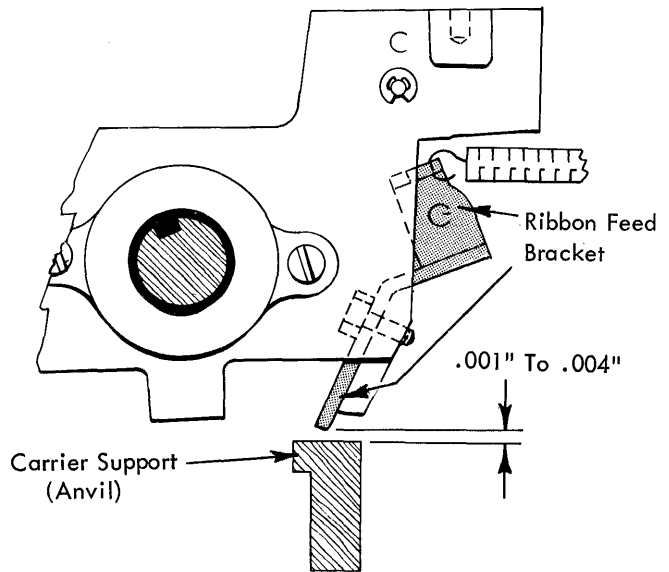

FIGURE 142.1 Carrier Support (Long Carriage Machines)
6. Carrier Support (long carriage machines) - Adjust both ends of the support vertically to maintain .001" to .004" clearance with the bottom of the ribbon feed bracket along the entire length of the writing line (Fig. 142.1).